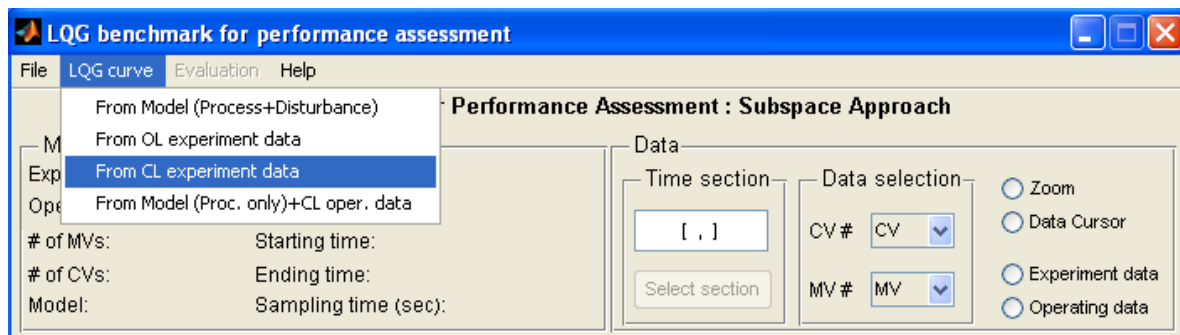
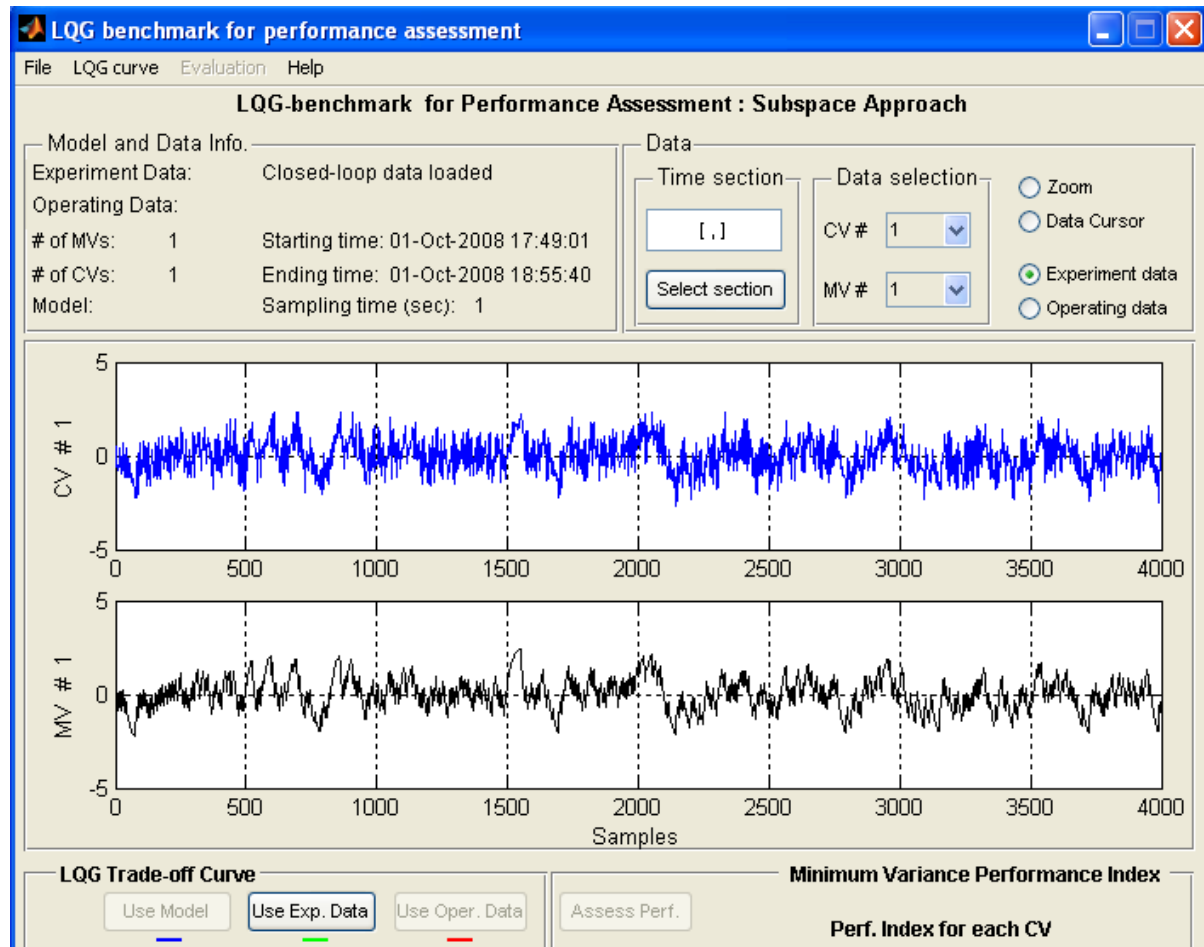

Figure 3: Loading data
Figure 4: Data information and plots
- 8) Use the **LQG curve** menu to load the model or data. When the model or data is loaded, the corresponding information will be shown in the **Model and Data Info.** panel (see Figure 3 and Figure 4).